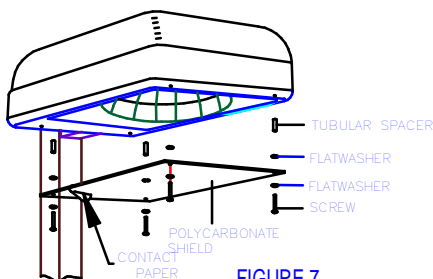

FIGURE 7
L. VANDAL SHIELD INSTALLATION TO FLAT GLASS UNIT (FIGURE 7)